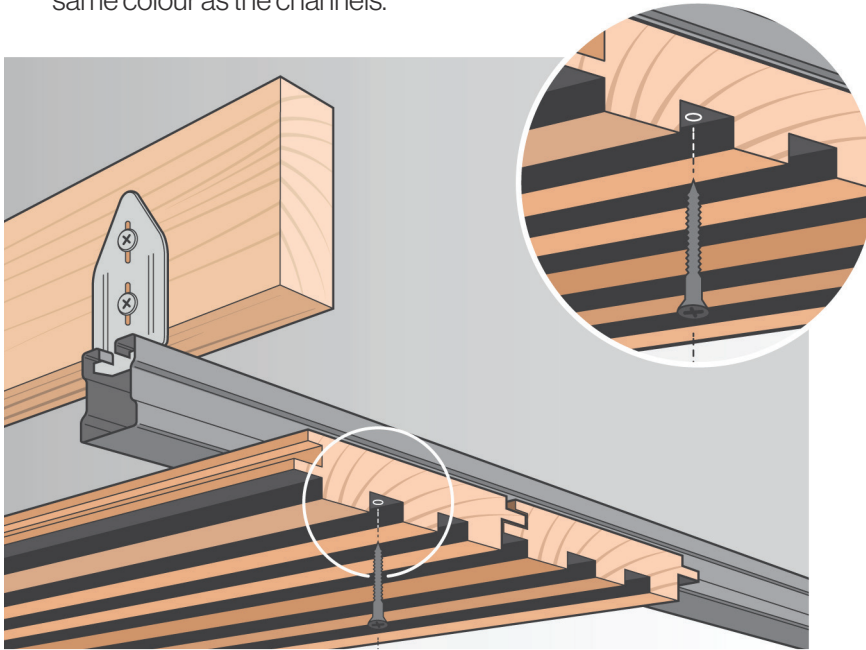

Figure 3: Panelling installation using metal track system and face fix; face screw directly using a coloured head screw (see Figure 4)
- Castelation® panelling with channels can be screwed through the channel to the metal track. One screw per board, per track is sufficient (see Figure 3). This works particularly well with the Castelation® Two Tone product as the screw heads can be painted the same colour as the channels.